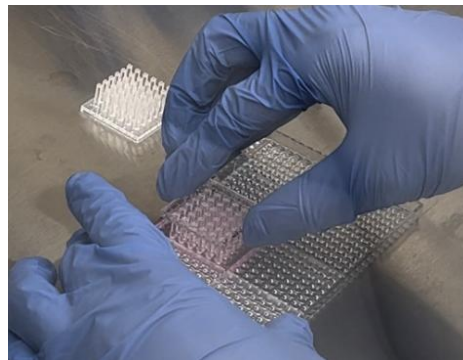

Figure 7. Stamping of the 36PillarPlate on the LoadingPlate to load cells suspended in Matrigel-alginate on pillars.
19. Stamp the 36PillarPlate on the LoadingPlate and press gently to load the cell-Matrigel-alginate mixture evenly on the entire pillar plate (**Fig. 7**). Repeat this cell loading step for other pillar plates as needed.